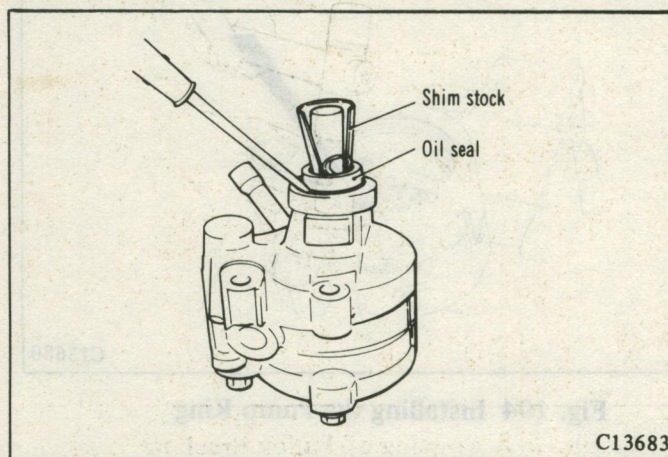

Fig. 110 Removing the Drive Shaft Seal
(3) Tear metal body approximately 25 mm (1 in.) with diagonals. Force an awl between the pump body and the O.D. seal to collapse the seal, then pry seal from pump body. Remove shim stock. (Fig. 110)